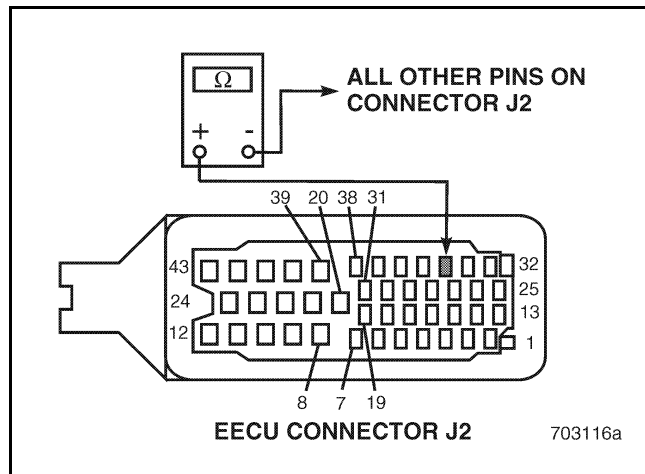

Figure 321
4. Check for continuity between EECU harness connector J2 pin 34 (signal line) and all other pins in EECU harness connector J2 (see Figure 321).